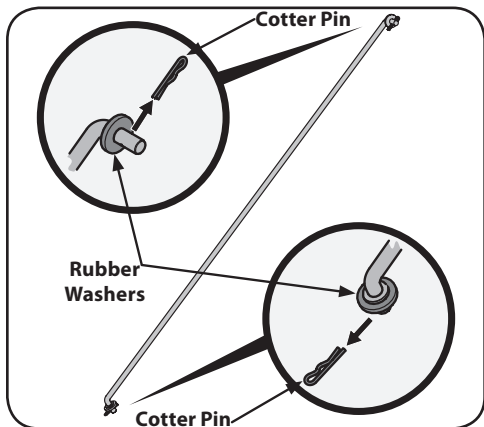

Figure 3-6
- Remove the cotter pins from the control rod, leave the rubber washers on the control rod. See Figure 3-6.